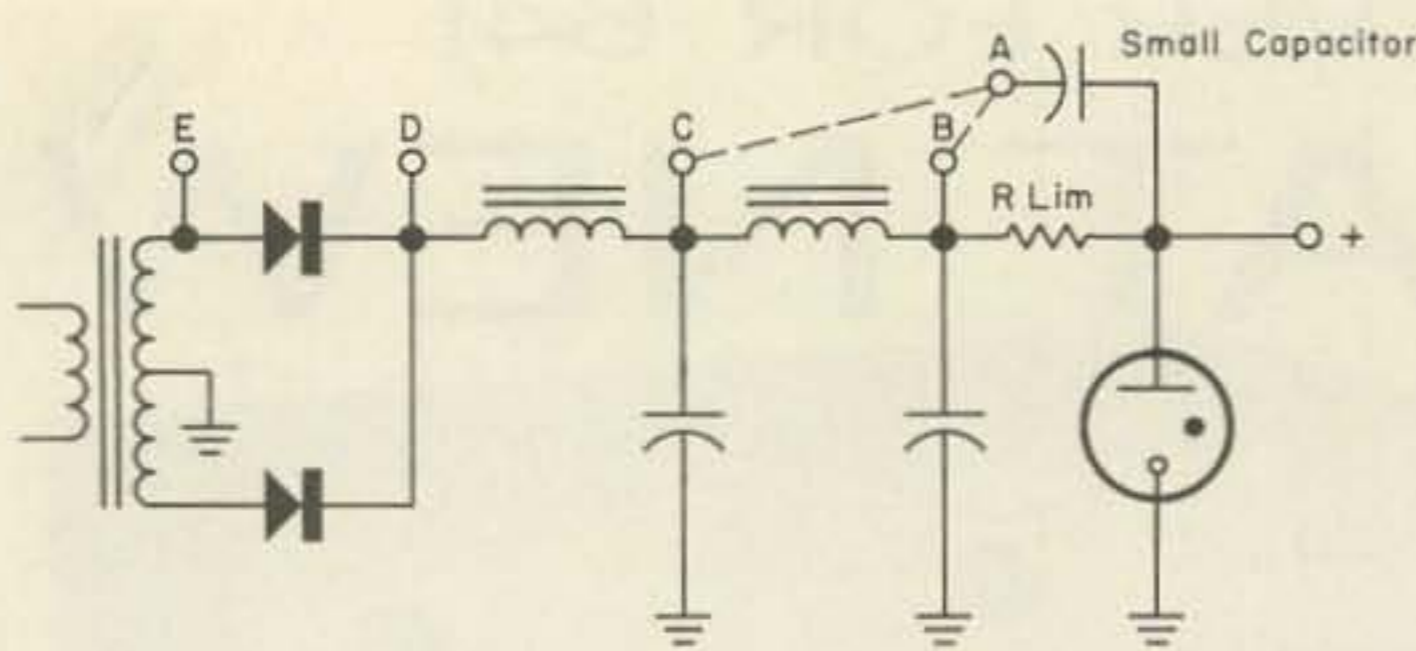

FIGURE 4
1.3 times the VR tube voltage. At this point it might be mentioned that VR tubes are sensitive to light and radiation, and that a tube which will be used in the dark should be in the dark while its limiting resistor is adjusted, otherwise it may not start when placed in service. This fault may be overcome by giving a margin of safety in the choice of supply voltage. Nowadays many VR tubes have a bit of radioactive isotope inside which makes for more reliable starting. Also, in case of difficult starting due to insufficient supply voltage, some of the tricks shown in Fig. 4 may be used.